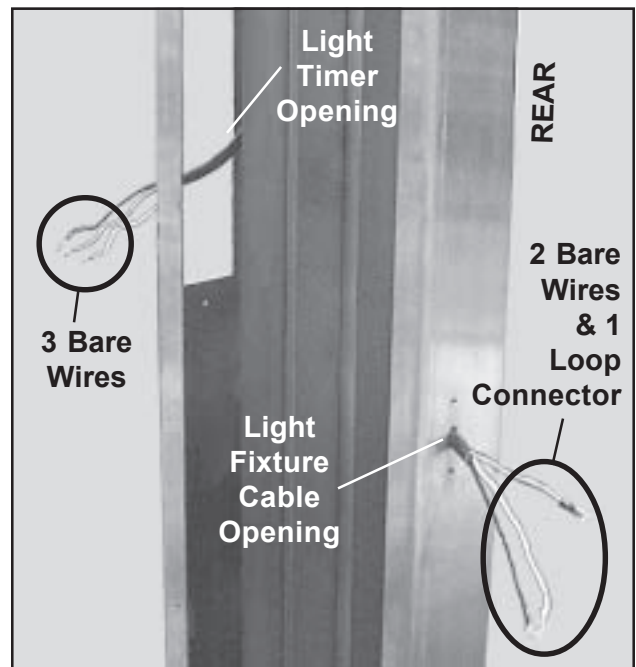

Figure 2. Cable B Installed in the Left Column
2. Pass the end of Cable B with the three bare wires through the light timer opening in the front of the left column (Figure 2).